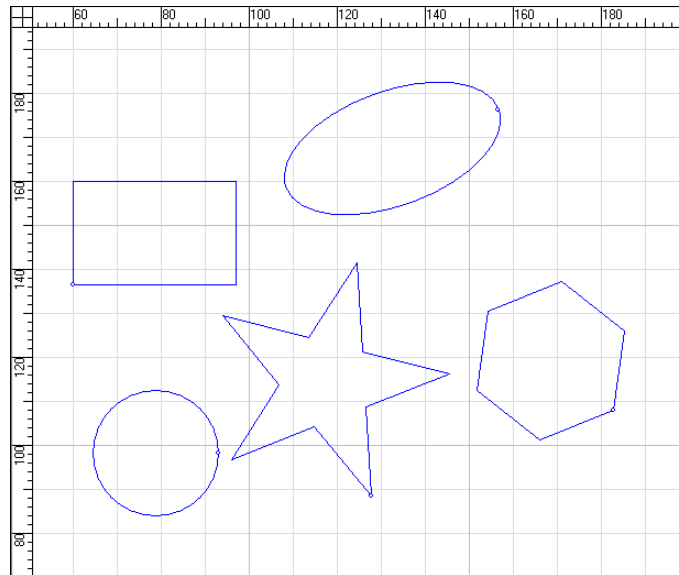

Fig. 5-17 Draw objects of pipe multi-cutting
- 1) Draw or import the objects to be cut, as shown in Fig. 5-17.